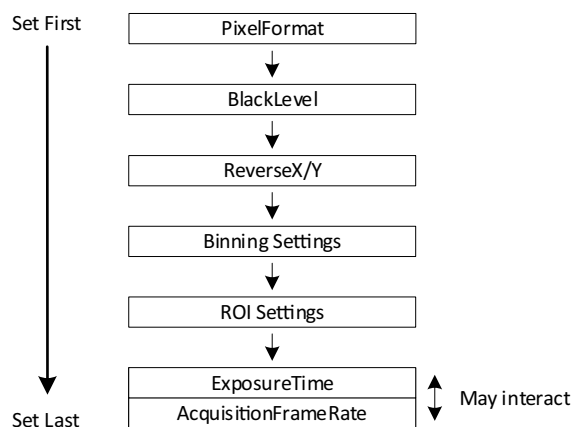

Figure 45: Interdependencies between controls
The conversion between time and clock cycles affects control values. Controls for pixel format, bandwidth, ROI, and exposure time are related to each other. Changing values for one control can change values for another control. For example, frame rates can be reduced when **MIPI Data Format** is changed subsequently. Figure 45 shows the interdependencies.
- To avoid readjustments, apply settings in the order shown in Figure 45.